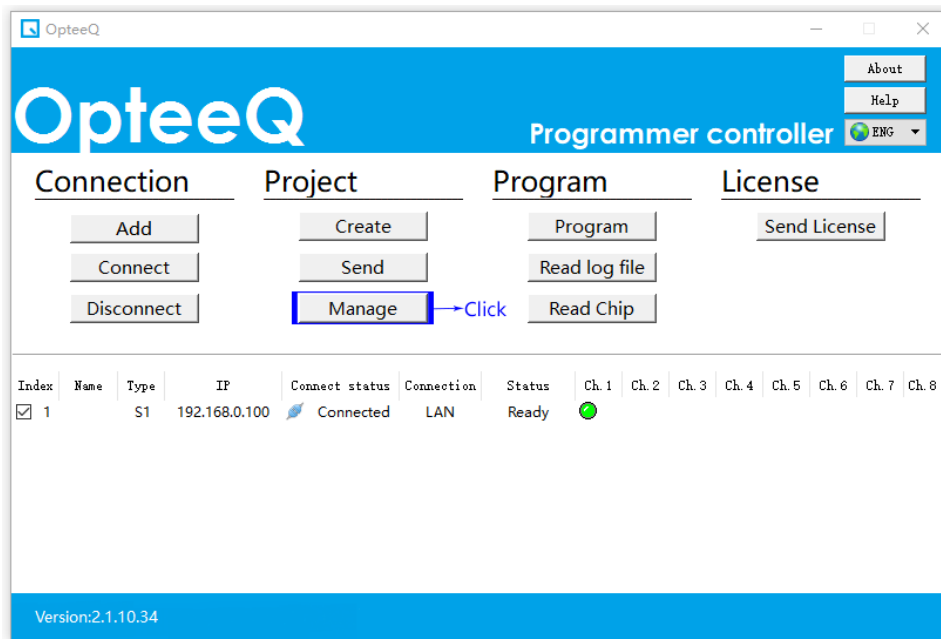

Figure 4.17: Project Management
1) Click "Manage Project" (as shown in Figure 4.17).